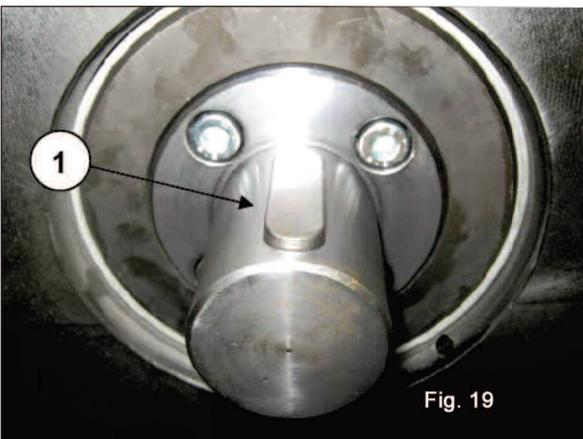
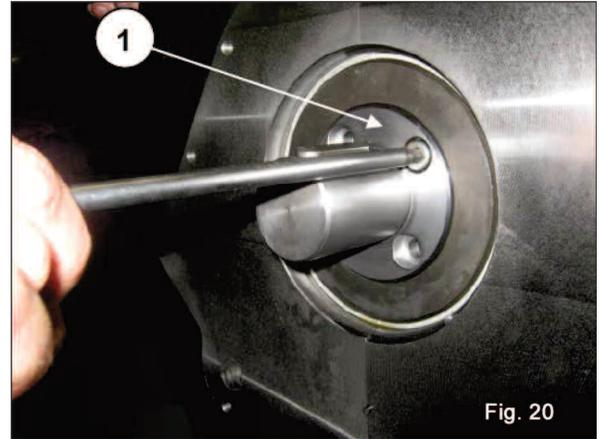

Fig. 19
Fig. 20
Remove the key from the lube pump drive shaft (1, fig. 19). Undo the (4) M8 screws (1, fig. 20) and remove the lube pump drive shaft from the crankshaft.